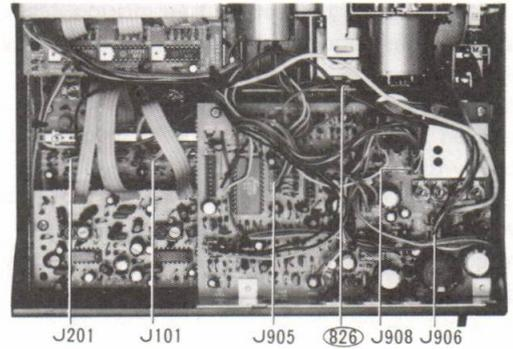

Fig. 4
- (1) Following the instructions of step "3", remove the front panel.
- (2) Gaining access from the bottom, disengage the counter belt that is engaged from the mechanical section over to the counter on the body-side.
- (3) Disconnect at the terminal, the red lead wire that leads out from the solenoid for recording that is connected to terminal (826) on the p. c. board provided at the rear surface of the mechanical assembly.
- (4) To disconnect the wiring loom from the mechanical assembly, first pull out the loom and then pull out the 5 plugs (J101, J201, J905, J908) from their locations as showing in Fig. 4 and the Table.